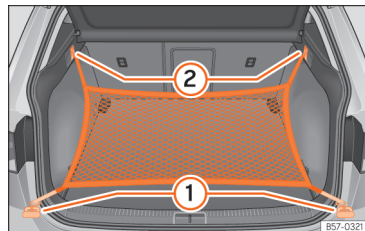

Fig. 173 In the luggage compartment: rings ① and hooks ② for attaching the net bag.
- Secure the short net hooks to the fastening rings >>> Fig. 173 ① >>> ⚠. The bag zip should be facing upwards.
- Secure the straps in the bag hooks ②.